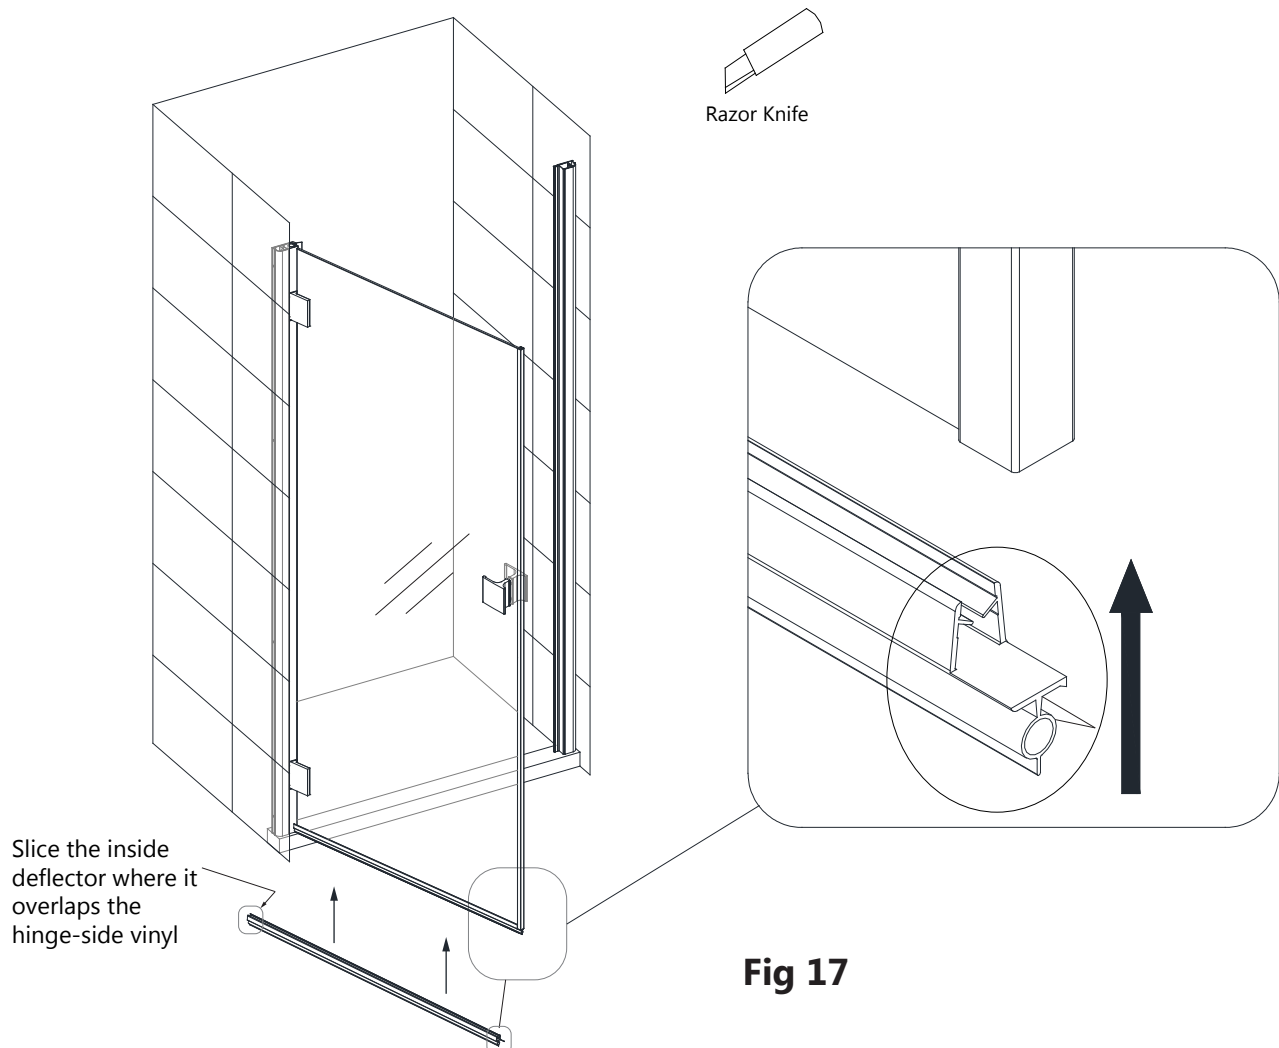

Fig 17
14. Notch the strike end of the **Bottom Strip (#12)** with a razor knife to fit around the **Strike Rail (#07)** on the edge of the **Door Glass (#06)**. Install the **Bottom Strip (#12)** onto the bottom of the **Door Glass (#06)**. **(Fig 17)**